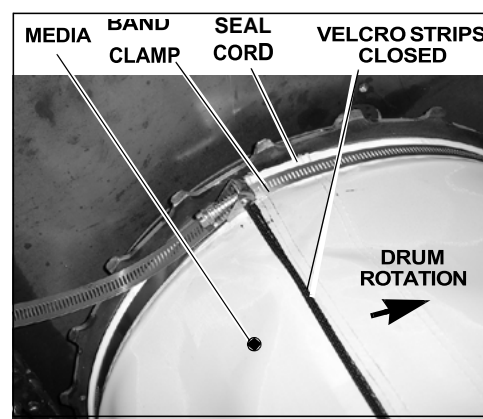

Figure 14. Media Installed on Drum
4. The media is held onto the drum with large band clamps (hose clamp) on either end, Figure 14. Manually rotate the drum until the adjustment screws of the band clamps are accessible through the access openings. Loosen and remove the clamps.
Note: When installing media, ensure that the Velcro strips are properly orientated so that they may be closed after installation around drum, and that the lapping edge faces the front of the unit, against the direction of rotation. See Figures 14 and 15.
4. Insure media edges are against the drum end discs the entire circumference of the drum. Stretch the media and secure the Velcro closure. The Velcro seam should be evenly closed the entire length of the joint as shown in Figure 14.
the seam cord on the media, Figure 14 and 15. Tighten the clamps.